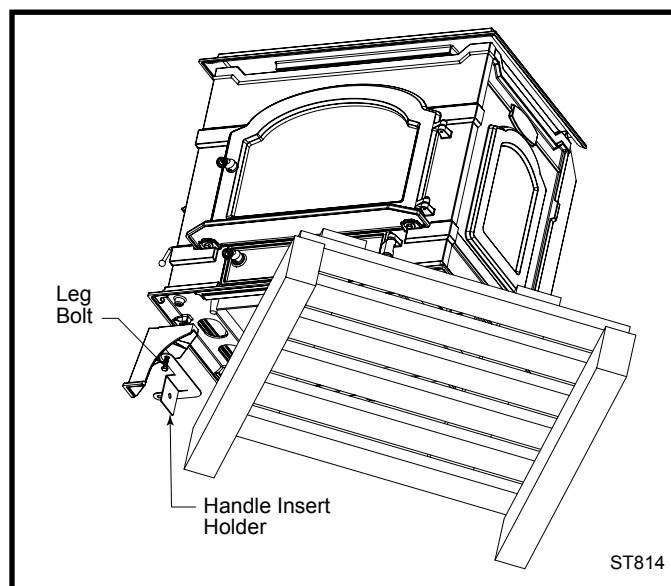

Fig. 25 Rotate stove on pallet to expose front left corner.
2. Rotate the stove counterclockwise until the front left corner overhangs the pallet and the leg-mounting hole is accessible. (Fig. 25)
3. Remove and discard the (4) 3/8-16 x 1/2" round head bolts that are in the leg holes on the bottom of the stove.
4. In the hardware bag, locate the four legs, the door handle insert holder, (on this leg only, the door handle insert holder is used along with a washer), (4) 3/8-16 x 1" leg bolts and four (4) washers.